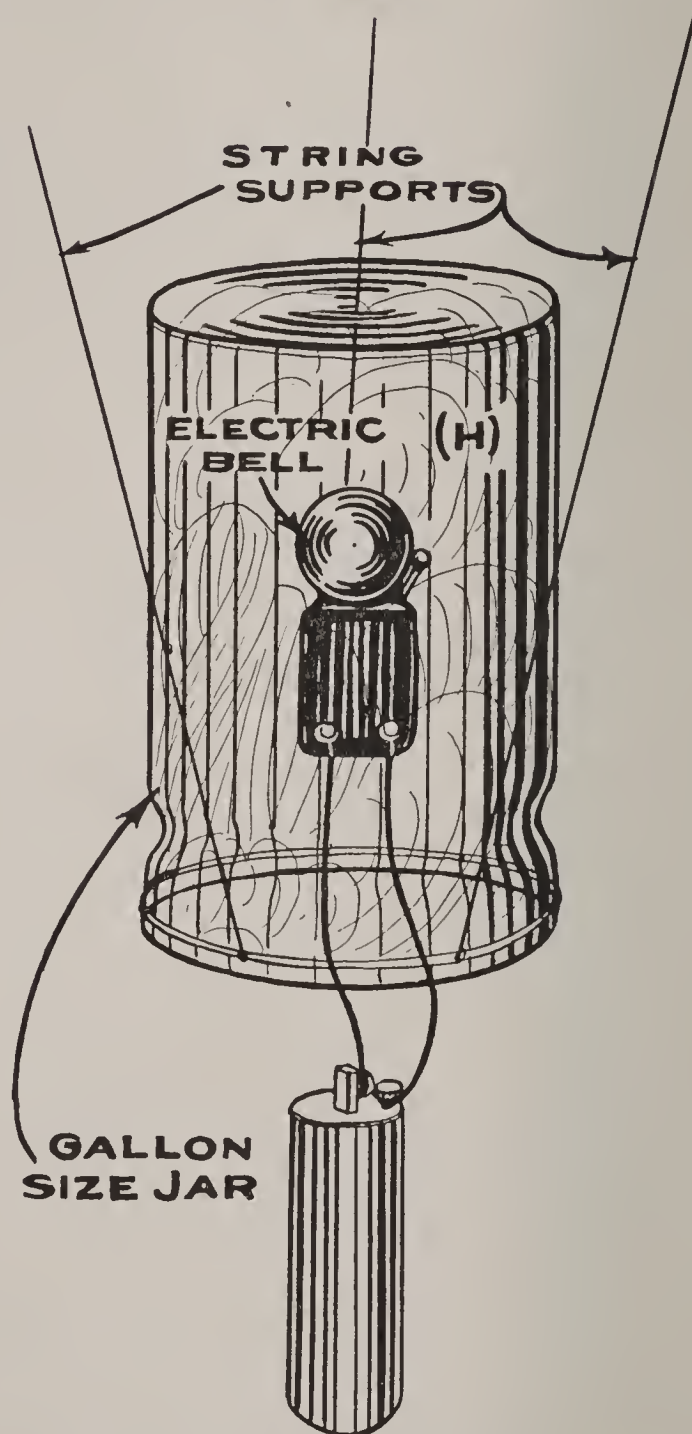

FIG. 89.—An Electric Bell in Hydrogen.
How Hydrogen Acts on Sound. For the following experiments take a gallon glass fruit jar, or a battery jar, fill it with hydrogen (H), and suspend it by means of strings; now connect a dry cell with an electric bell and hold the latter in the jar, as shown in Fig. 89, and it will give out quite a different sound from that which it does when it rings in air.